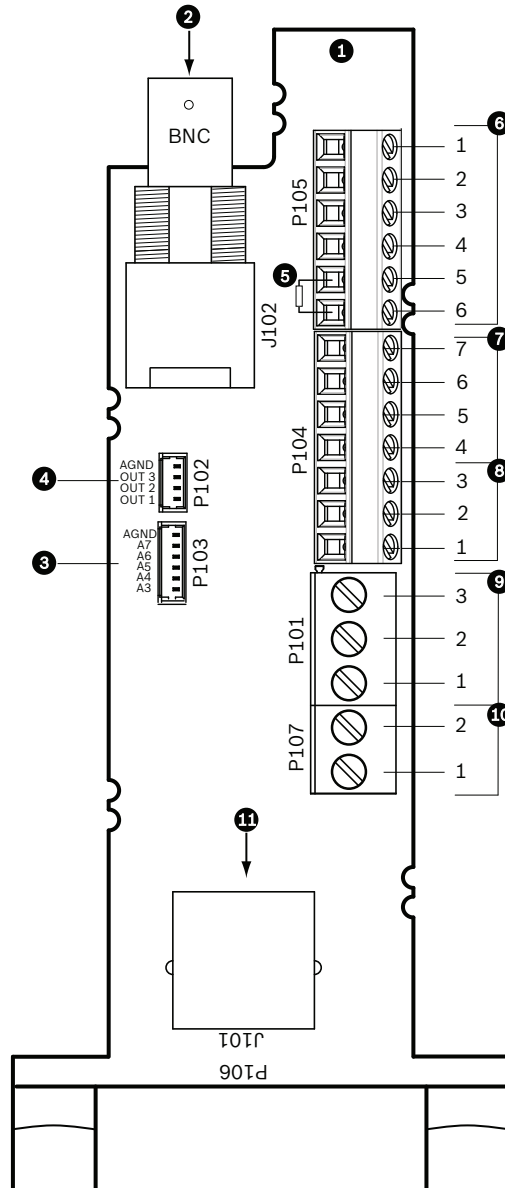

Figure 3.10 Pipe Interface Board Connections
To wire multiple AutoDomes in a series, or “daisy chaining,” you must apply a terminating resistor to the last dome of the series. The Interface Board is supplied with a 100 Ω terminating resistor located between the Biphase terminals C- and C+ (pins 1 and 2) of the P105 control connector (see item 5 in *Figure 3.10* above). Remove the resistor from all but the last AutoDome Interface Board. The maximum number of AutoDomes that can be daisy chained is four (4). If using the RS485 protocol for control, switch the terminating resistor from the Biphase C+ and C- terminals to the RxD+ and TxD- terminals (pins 4 and 5) of the P105 control connector for the last dome (see item 6 in *Figure 3.10* above).
2. Attach the control data in/out wires to their respective terminals on the P105 connector on the Pipe Interface Board. See *Figure 3.10, Page 57*, for an illustration of these connections.